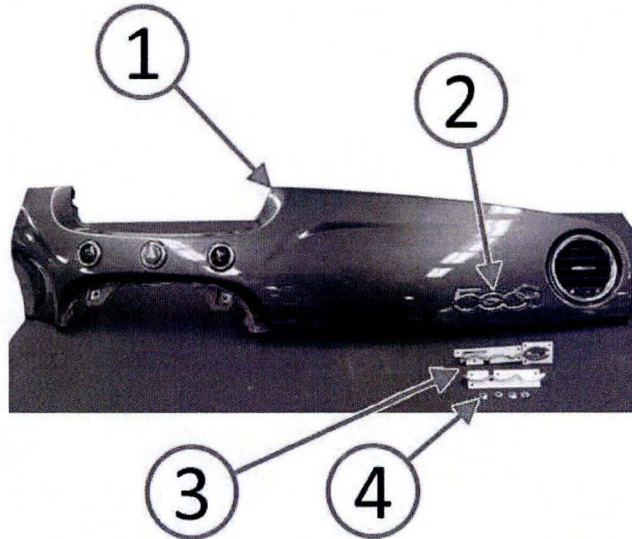

Fig. 1 Remove Instrument Panel Bezel
1. Remove the instrument panel bezel (1) (Fig. 1). Refer to the detailed service procedures available in DealerCONNECT> TechCONNECT under: Service Info> 23 - Body> Instrument Panel> BEZEL, Instrument Panel, Center> Removal.